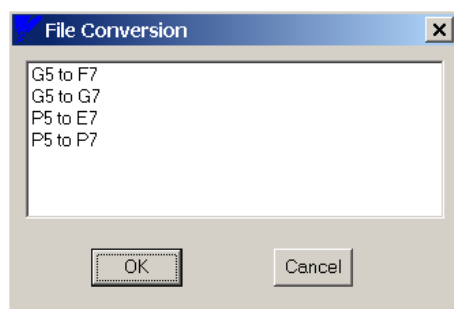

Figure 4.20: Select File Conversion Type
2. Figure 4.20 will appear. Click on P5 to E7 and then click on **OK**.